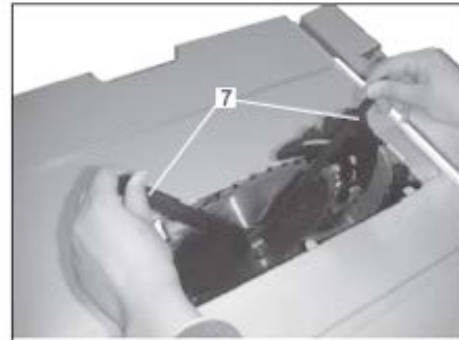

fig.23
- Place the jaws of the open-ended wrench (7) on the flats of the flange (5) in order to prevent the arbor from turning while tightening. Tighten the arbor nut by turning it clockwise using the open-ended wrench (7) (See Fig. 23).